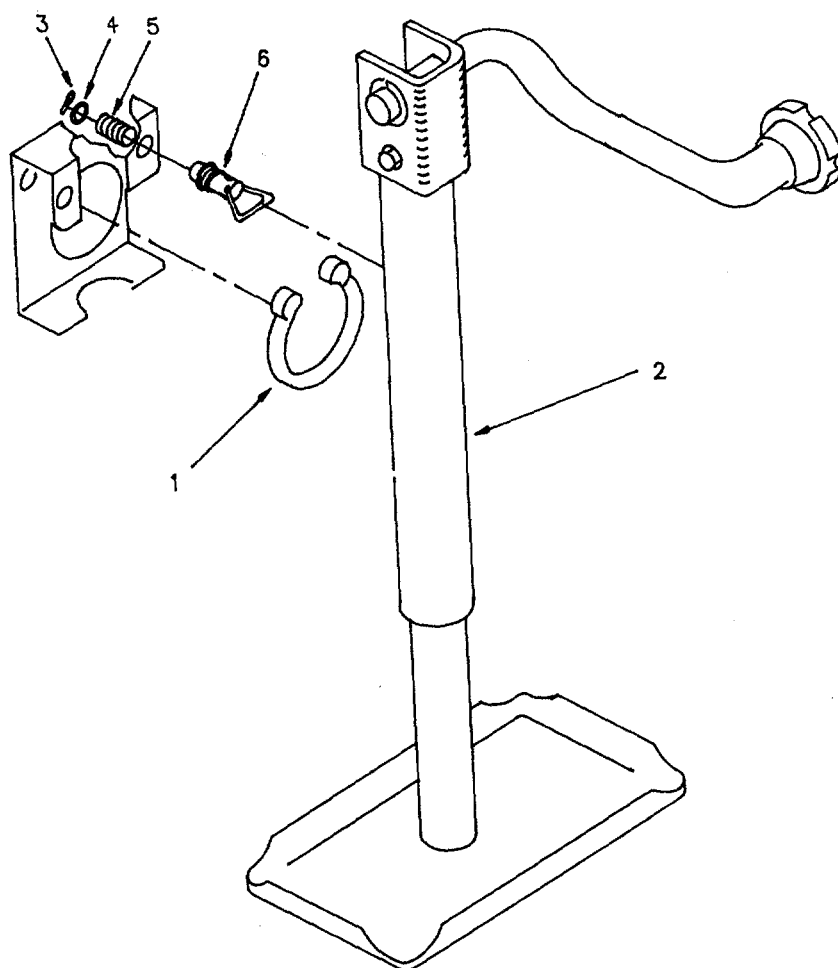

Figure 4-33. Leveling-Support Jack.
- (1) Remove retaining ring (1, Figure 4-33).
- (2) Remove leveling-support jack (2).
- (3) Remove cotter pin (3), flat washer (4), and spring (5) from plunger assembly (6).
- (4) Remove plunger assembly (6).
- (1) Install leveling-support jack (2, Figure 4-33).
- (2) Install retaining ring (1)
- (3) Install plunger assembly (6).
- (4) Install spring (5), flat washer (4), and cotter pin (3) to plunger assembly (6).